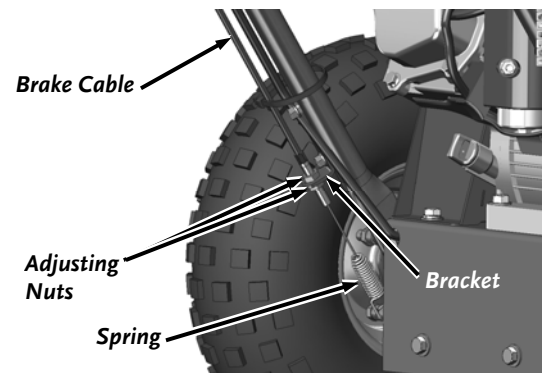

Figure 28
1. Loosen the lower nut a few turns so it moves away from the Bracket (**Figure 28**).
1. As you rotate the Wheel forward (with Wheel Lever unlocked), loosen the upper Nut until the Wheel turns more freely but you still feel a slight resistance at the Wheel (**Figure 28**).